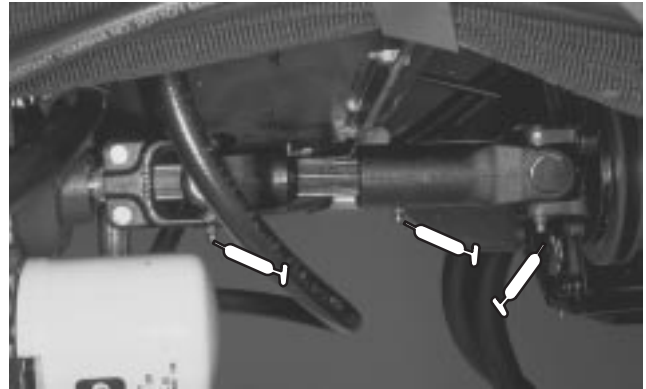

Figure 35
- Engine Drive shaft (3), (Fig. 35)